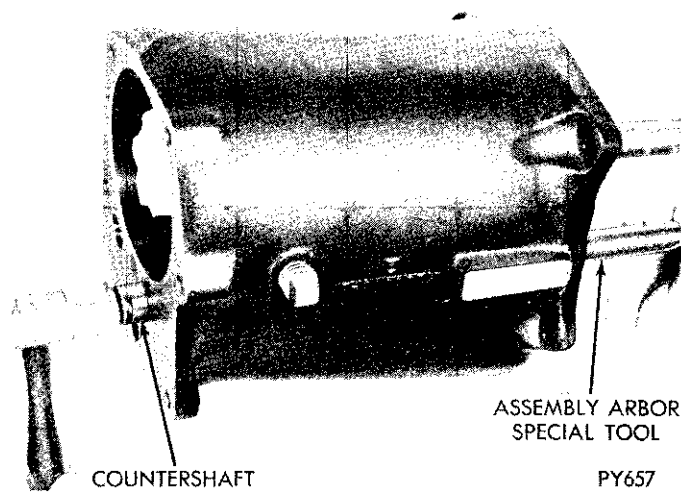

Fig. 26—Countershaft—Installation
(11) Now finish installation of countershaft gear assembly by positioning it and the thrust washers so that the countershaft can be tapped into position (Fig. 26). **Be careful to keep the arbor in contact with the countershaft to avoid parts dropping out of position and blocking the installation.** Install key in countershaft as installation is finished.